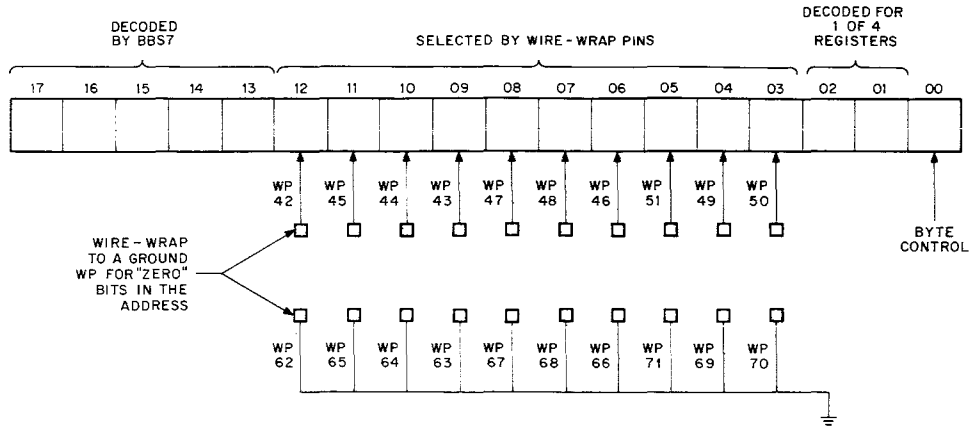

Figure 2 DRV11-P Device Address Select Format
Figure 2 shows the address select format and presents the wire-wrap pin-to-bit relationship for device address selection. Bits to be decoded as 0 bits in the base address are wire-wrapped to ground wire-wrap pins (WP). Bits to be decoded as 1 bits are left unwrapped as these bits are pulled up to the 1 state.